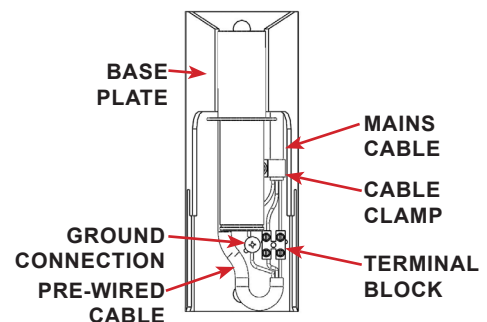

FIGURE 2.5 - Electrical Connections
- STEP 8:** Strip mains wiring and secure the power and neutral to the terminal block. Refer to FIGURE 2.5
- STEP 9:** Strip the ground wire and connect to the ground terminal. Refer to FIGURE 2.5